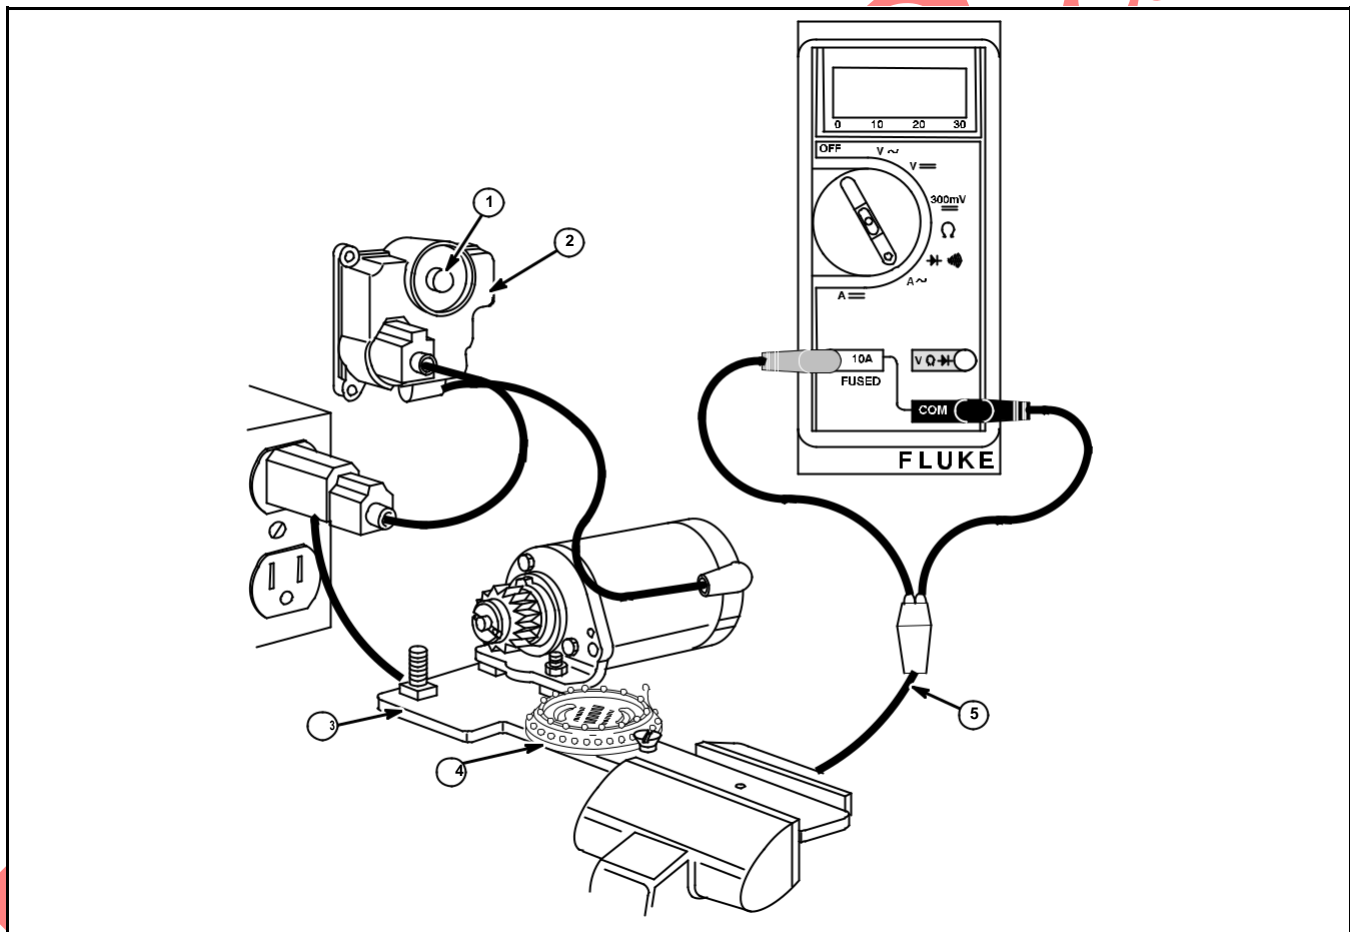

Fig. 21
2. Insert leads into meter and plug starter motor cord into AC shunt, Fig. 21.